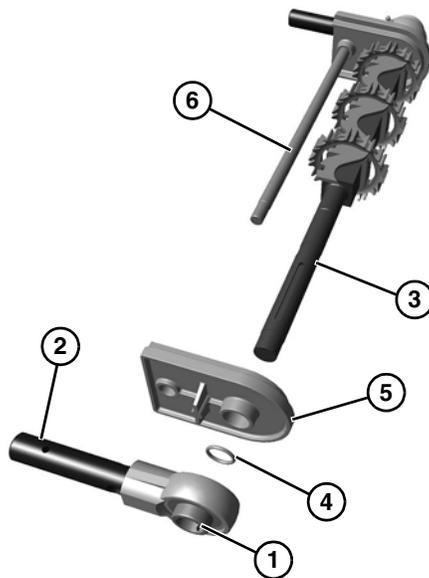

Figure 55
7. Use a hex wrench to loosen two set screws (Figure 55, item 1) on the bearing shaft assembly.
8. Slide the bearing shaft assembly (Figure 55, item 2) off the drive spindle (Figure 55, item 3).
*When removing tracking plate, be certain not to lose O-ring (Figure 55, item 4).*
9. Slide the tracking plate (Figure 55, item 5) off the drive spindle.
10. Remove pinch guard shaft (Figure 55, item 6).